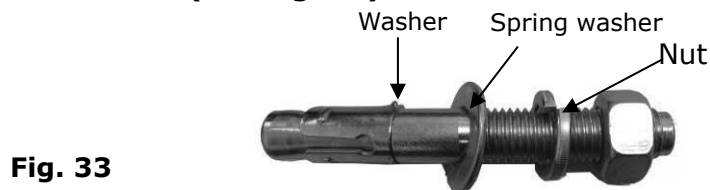

Fig. 33
1. Prepare the anchor bolts (See Fig. 33).